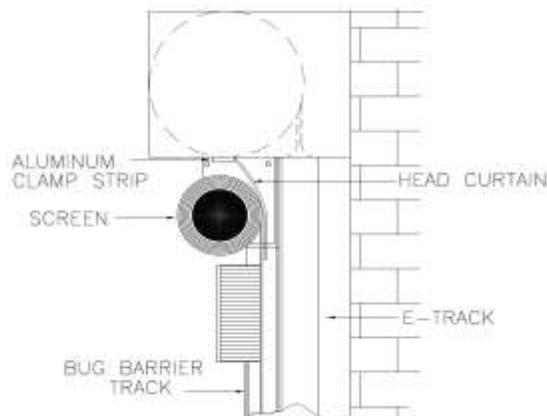

FIGURE 3
4. Once connected lift the tracks up and attach the side screen to the back of the rolling steel door using the E-track brackets attached to the back of the Gateway door. (See Fig. 3).